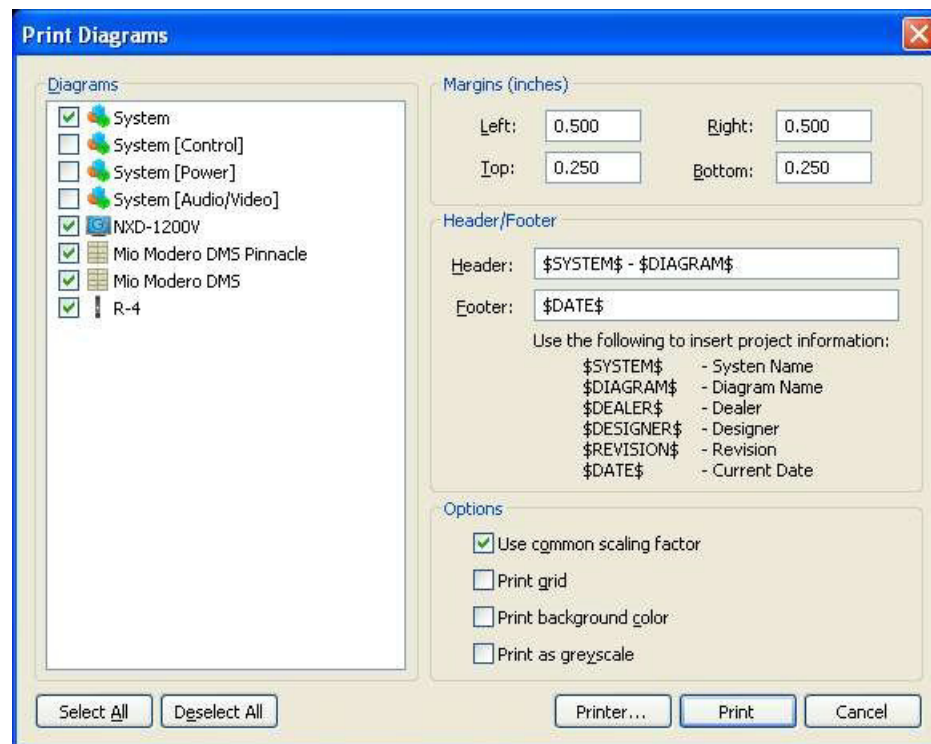

FIG. 276 Print Diagrams dialog
1. Select **System > Print Diagrams** (or click the Toolbar button) to open the *Print Diagrams* dialog (FIG. 276).